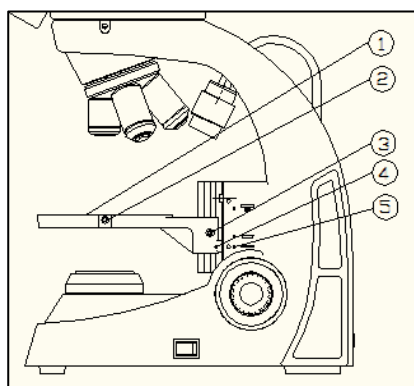

Fig 24
Put the plate① into the holder use a hexagonal wrench lock the screw②. Adjust coarse focusing wheel to lift the holder to the top position, loose the screw③ to move the holder, and then lock the screw③ when the mark ④ and ⑤ are horizontally aligned. (See Fig.24)